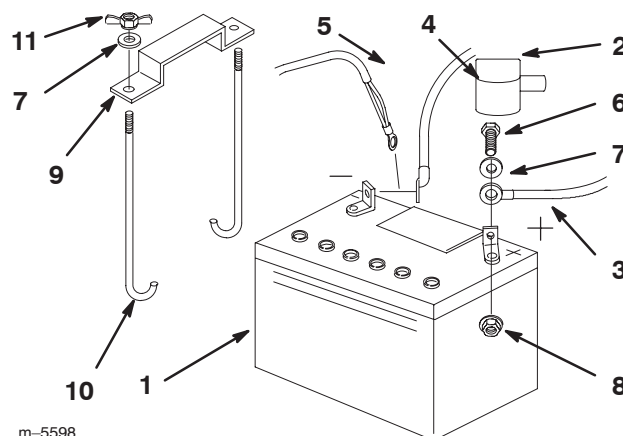

Figure 64
1. Position battery in tray with terminal posts toward the engine (Fig. 64).
4. Secure the cables with 2 bolts (1/4 x 3/4 inch), 2 washers (1/4 inch), and 2 locknuts (1/4 inch) (Fig. 64).
6. Secure battery with J-bolts, hold down clamp and 2 washers (1/4 inch), and 2 wing nuts (1/4 inch) (Fig. 64).
4. First disconnect the negative battery cable and ground wire from the negative (–) battery terminal (Fig. 64).
5. Slide the red terminal boot off the positive (red) battery terminal. Then remove the positive (red) battery cable (Fig. 64).
6. Remove both wing nuts (1/4 inch) securing the battery clamp (Fig. 64).